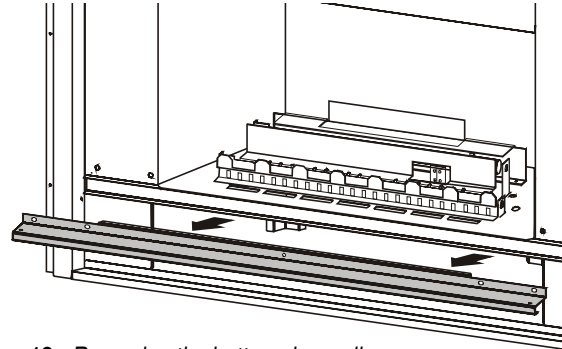

Figure 13. Removing the bottom door rail.
3. Remove the bottom door rail, as shown in Figure 13.